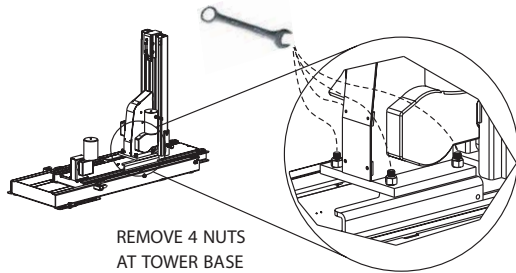

Figure 3-3
2. Remove 4 nuts at tower base. **See Figure 3-3**